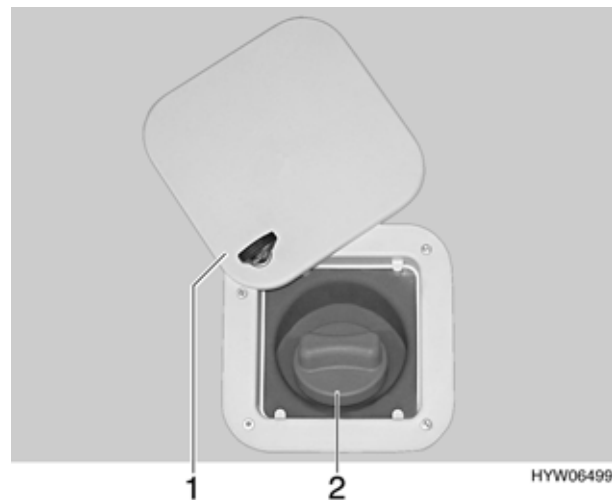
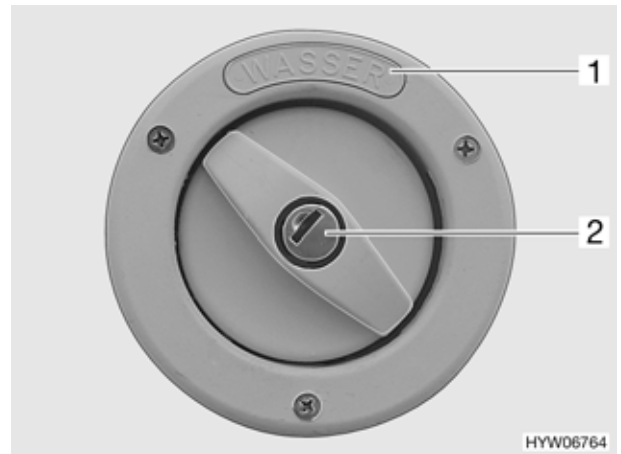

Fig. 141 Cap for the fresh water filler neck (variant 1)
Fig. 142 Cap for the fresh water filler neck (variant 2)
- Open flap lock and move external flap (Fig. 141,1) upwards (see chapter 5).
- Turn blue cap (Fig. 141,2) one quarter turn in an anticlockwise direction.
The fresh water filler neck is labelled with the word "Wasser" (water) (Fig. 142,1).
- Insert key into locking cylinder (Fig. 142,2) and turn it in an anticlockwise direction.
- Put the key in the locking cylinder (Fig. 142,2) and turn in a clockwise direction.
- Open the fresh water filler neck (Fig. 141 or Fig. 142) on the outside of the motorhome.